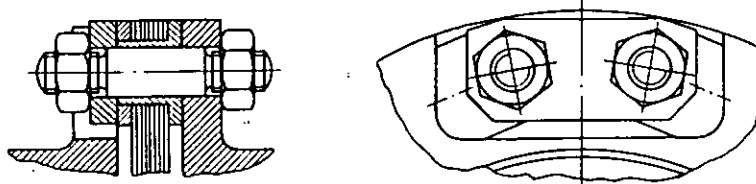

Fig. 3.1
4.4.1. Bolt plate packs to spacer (see fig. 3.1)